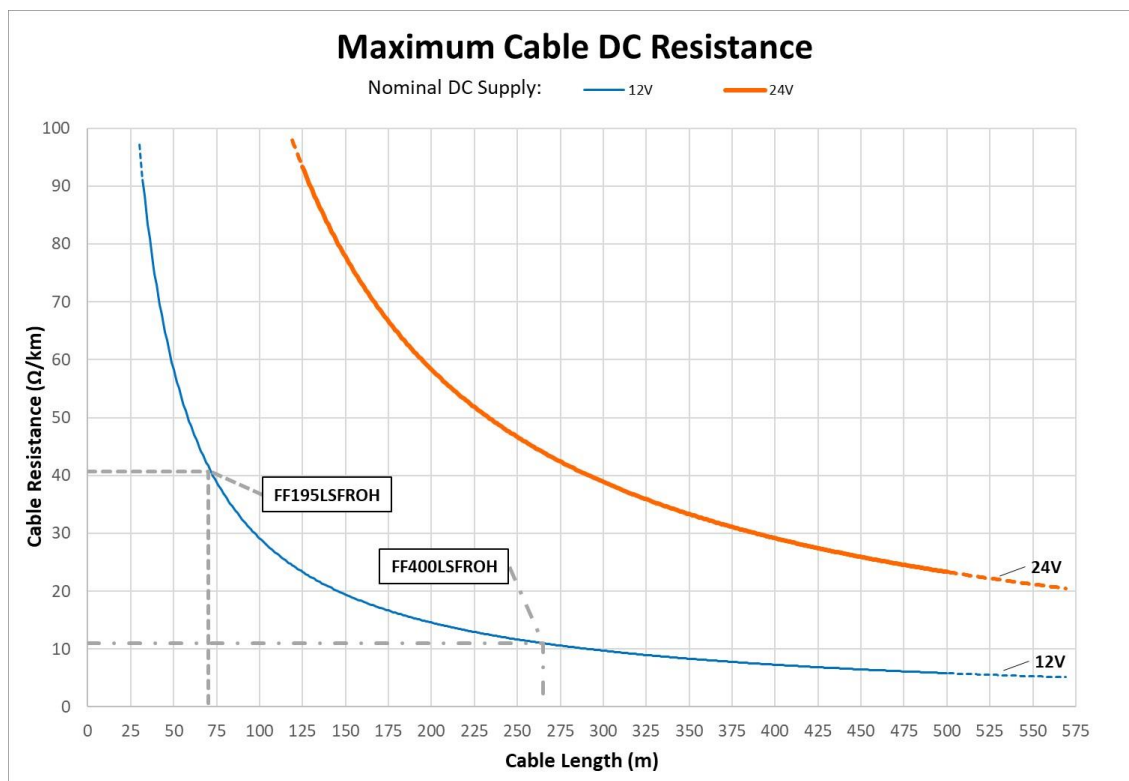

Figure 29: Coaxial Cable Total DC Resistance vs. Cable Length (12 VDC and 24 VDC).
The LT-3110S Control Unit and the LT-3130 Antenna Unit must be connected using a coaxial cable. Both the control unit and the antenna unit has a N connector (female) mounted. This section will specify the requirements to the coaxial cable. The minimum set of requirements are specified in Table 5 and Figure 29.
| Maximum DC resistance | See Figure 29.          |
In Figure 29 two different input voltages (12 VDC and 24 VDC) illustrate the maximum length of the coaxial cable as a function of the DC cable resistance.
**NOTE:** The DC cable resistance that is illustrated in Figure 29 and used to calculate the maximum cable length is the sum of the DC inner conductor resistance and the DC outer conductor resistance. Some data sheets are not providing sufficient information about the DC resistance, in which cases, the cable manufacture must be approached to obtain this information.